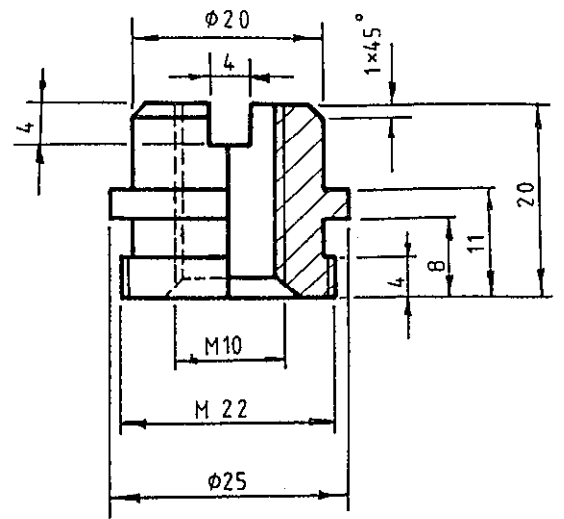

FIG. 8.2
- (iii) Which would be the most suitable snap resolution for the drawing in Fig 8.2 ?